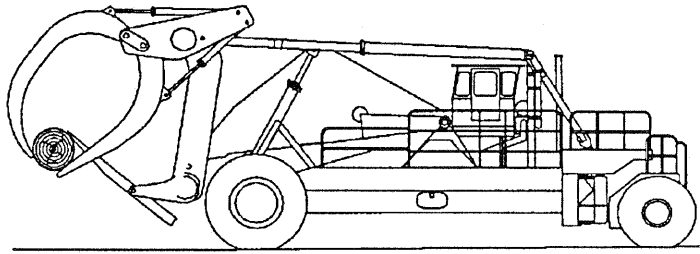

Fig 4-11
5. Fig. 4-11 shows a good example of the Lumberjack's flexibility. The log is under the tines and is held by the hold-down and kickoff arms. Partial loads should be held with the holddown and the kickoff arms.